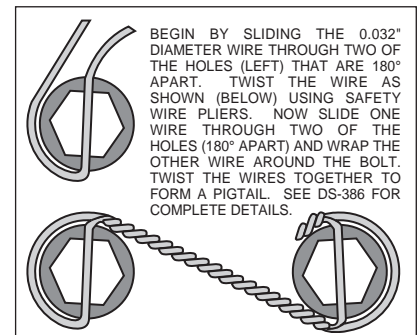

Figure 4. Safety Wire Diagram
- Attach rotor adapter (8) to rotor (9) using six bolts (10). Torque bolts (10) to 180 in-lb. Safety wire bolts (10) using standard 0.032 inch diameter stainless steel safety wire as shown in Figure 4. Please refer to Wilwood's data sheet DS-386 (available at www.wilwood.com/pdf/ds386.pdf) for complete safety wire installation instructions. **NOTE:** The flat side of the rotor (8) lugs face toward the rotor adapter (9) with the dished side of the rotor adapter (8) facing away from the rotor (9).
- Mount the adapter/rotor assembly (8 and 9) to the hub (5) using six bolts (11). Torque bolts (11) to 22 ft-lb. Safety wire bolts (11).
- Pack the small outer bearing cone (12) with high temperature disc brake bearing grease and install into front of hub (5). Slide the hub/rotor assembly (5 and 9) with outer bearing cone (12) onto the spindle. Secure using stock washer, adjusting nut and nut locking device.
- Install the dust cap (15) onto the hub (5). Friction created by the o-ring (14) on the dust cap (15) keeps it from unscrewing. The O.D. of the existing spindle washer may be larger than the I.D. of the dust cap (15) not allowing it to seat against the hub face. Therefore, use the spindle washer (13) supplied with the kit instead of the stock washer.
- **NOTE:** Please reference the caution statement at the beginning of the assembly instructions. With the bleed screws pointing up, mount the caliper (16) onto the caliper mounting bracket (1) using lock washers (17), bolts (18) and flat shim washers (19) positioned between caliper (16) and the caliper mounting bracket (1). Finger tighten. View the rotor (9) through the top opening of the caliper (16). The rotor (9) should be aligned in the center of the caliper (16). If not, adjust the caliper (16) by using 0.032 inch thick shims (19) placed between the caliper mounting bracket (1) and the caliper (16). Add as many shim washers (19) as necessary to achieve the correct alignment. Always use the same amount of shims on both the top and bottom caliper mounting bolts (18). Finger tighten and recheck alignment, adjust as necessary. Apply red *Loctite*® 271 to bolt threads (18) and torque to 30 ft-lb. Safety wire caliper bolts (18).
- Install the disc brake pads (20) into the caliper (16).
- Secure the disc brake pads to the caliper utilizing cotter pin (21).